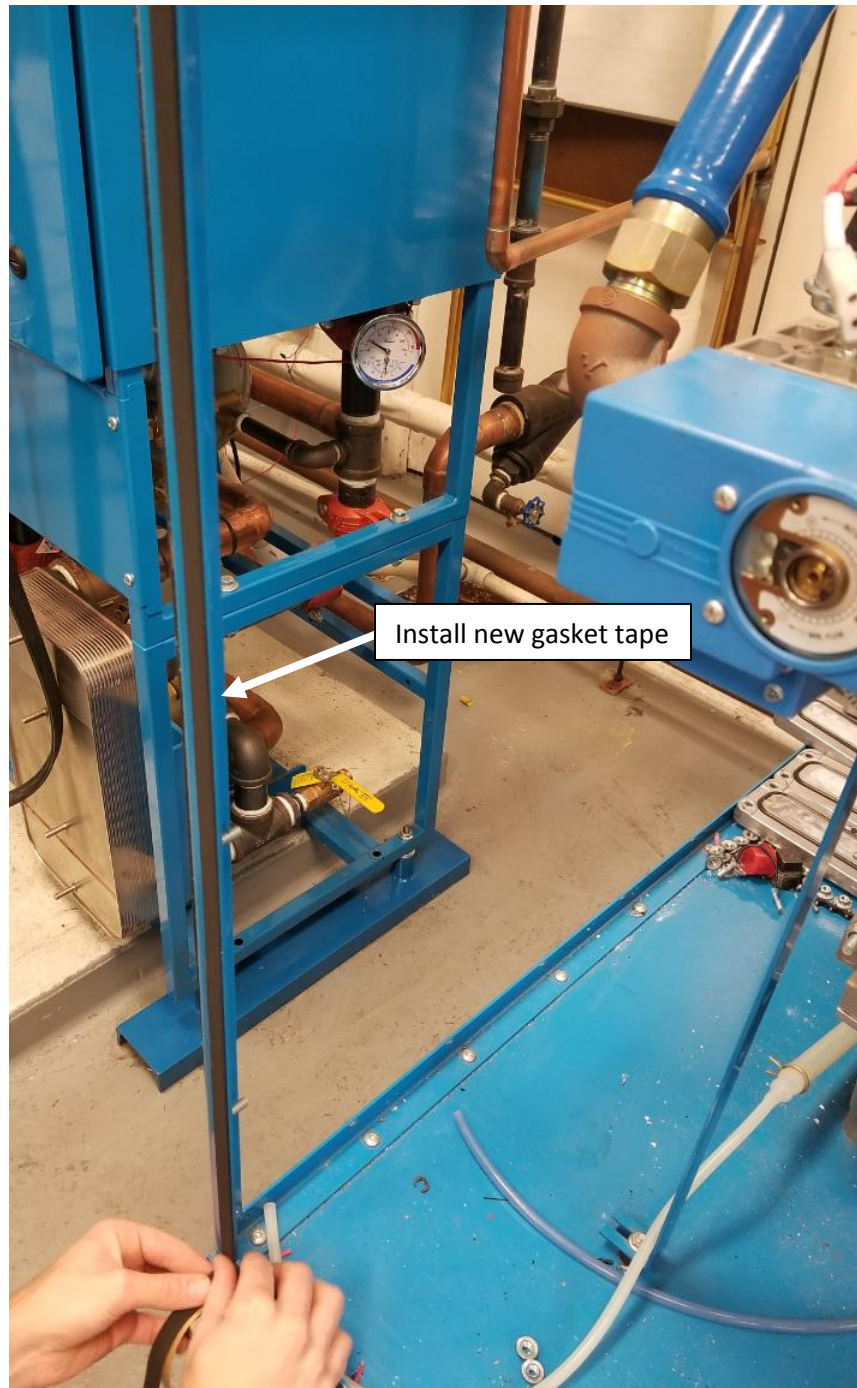

Figure 13
17. Using gasket tape supplied, tape the left side of the cabinet that does not have any shown in figure 13.